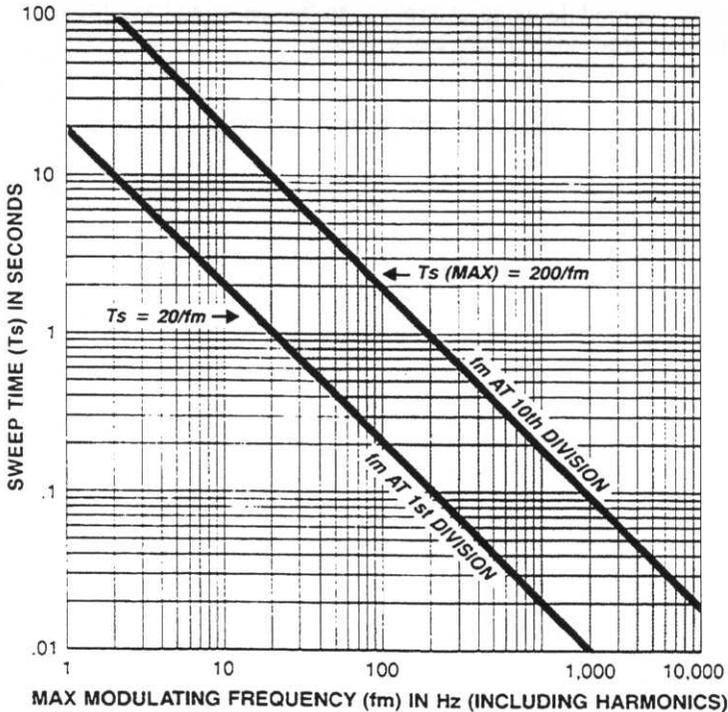

Figure 2-22
5. See Figure 2-22, which shows maximum modulation frequency (f_m) in Hz versus sweep time (T_s) in seconds. Set the sweep time less than $T_s(\text{max})$ for that maximum modulation frequency (f_m) including the harmonics of the signal. The upper curve relates the sweep time to the maximum modulation frequency that can be observed (that is, the modulation frequency represented by the right edge of the graticule). The lower curve represents the modulation frequency one division from the left side of the graticule.